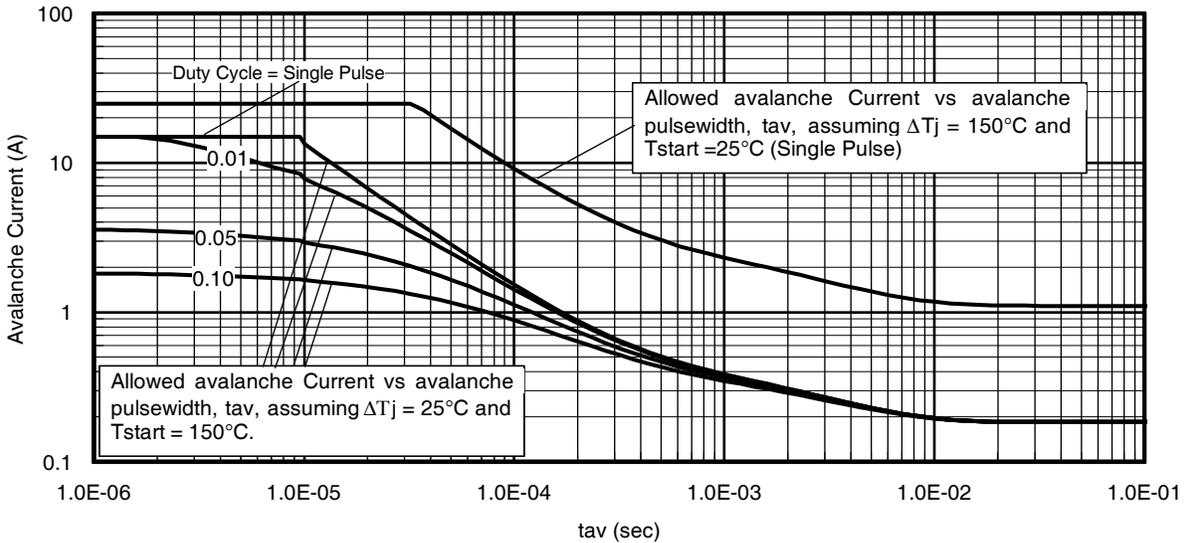

Fig 14. Typical Avalanche Current Vs. Pulsewidth
- ① Repetitive rating; pulse width limited by max. junction temperature. ④ R_{θ} is measured at T_J of approximately 90°C .
② Starting $T_J = 25^\circ\text{C}$, $L = 1.00mH$, $R_G = 25\Omega$, $I_{AS} = 15A$. ⑤ Limited by T_{jmax} . See Figs. 14, 15, 17a, 17b for repetitive avalanche information
③ Pulse width $\leq 400\mu s$; duty cycle $\leq 2\%$.
Notes on Repetitive Avalanche Curves, Figures 14, 15:
7. ΔT = Allowable rise in junction temperature, not to exceed T_{jmax} (assumed as 25°C in Figure 14, 15).